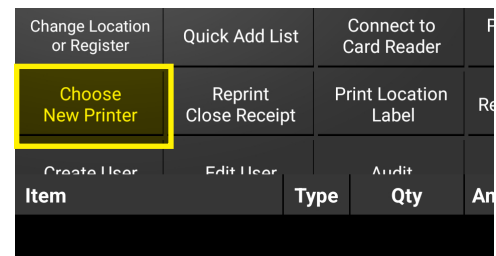

Figure 30
2. Open the CloudSent app on the tablet. Tap Choose New Printer (Figure 30).